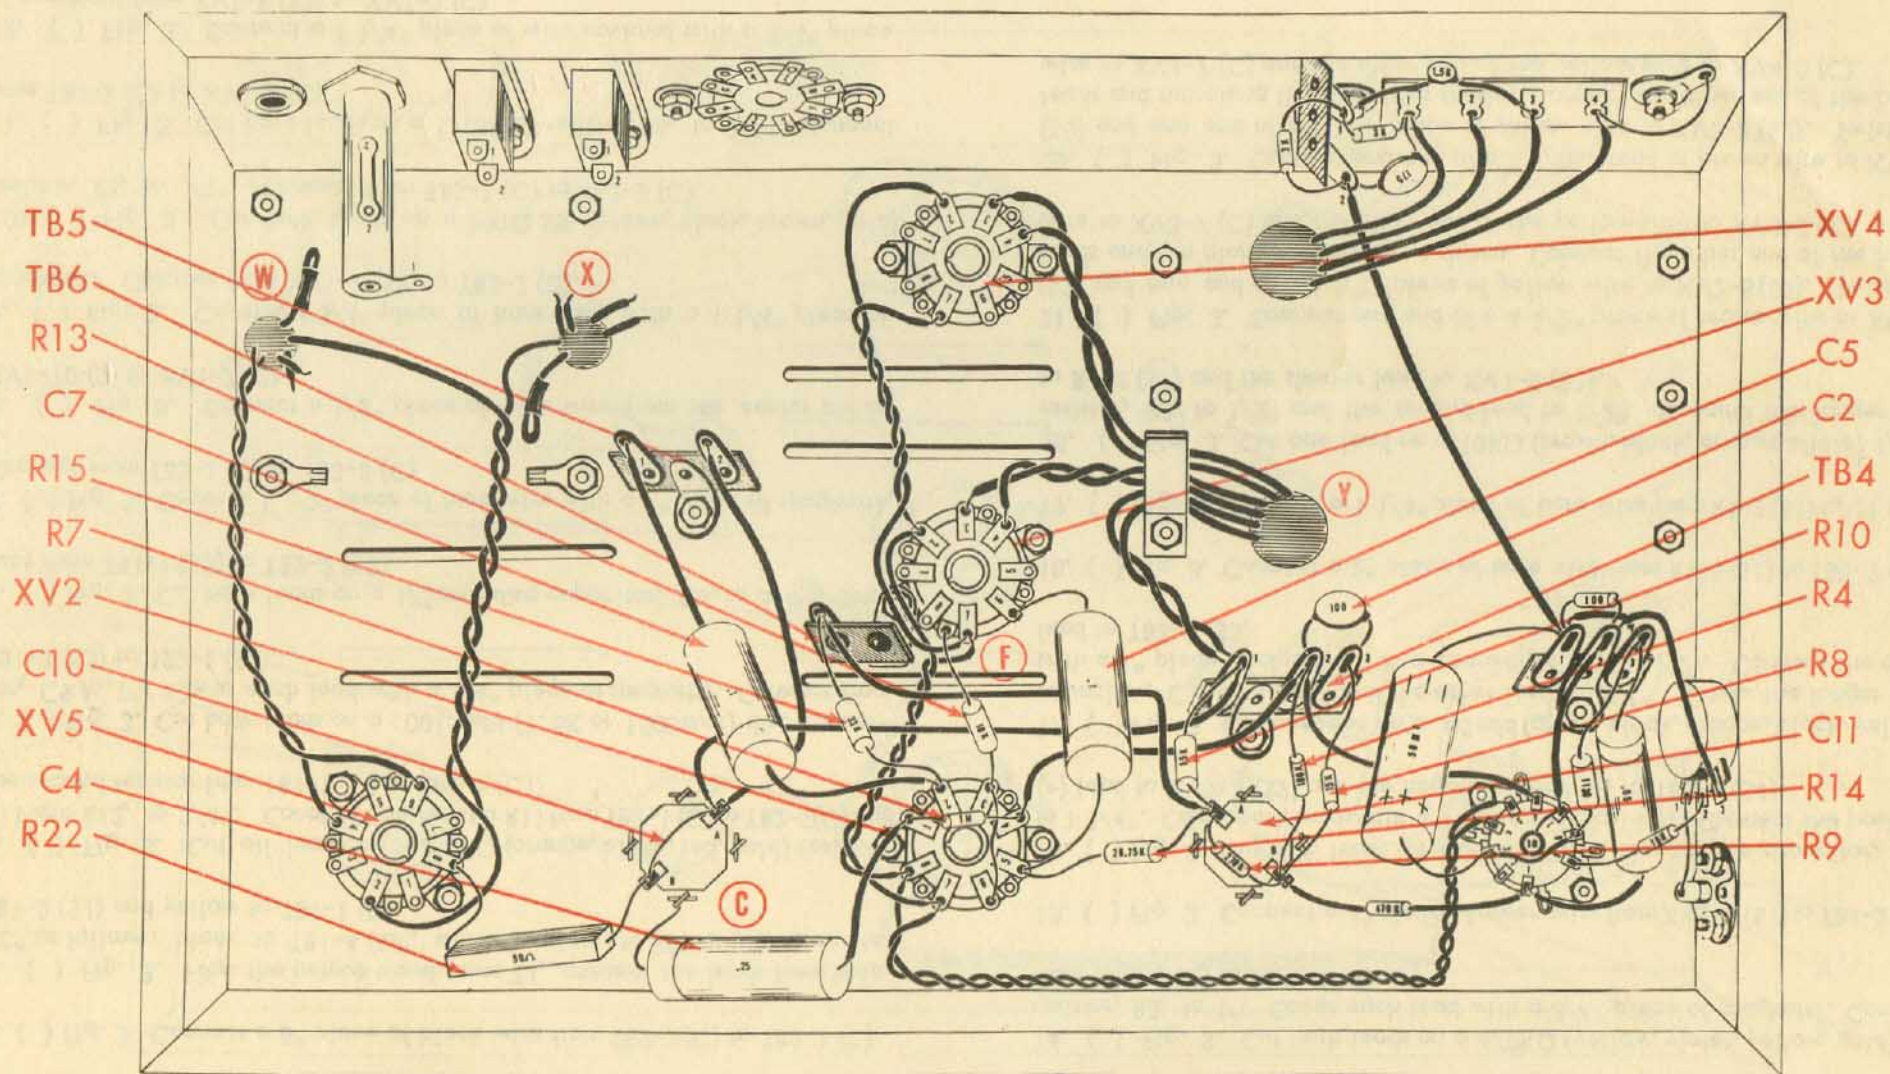

Fig. 4
1. () Fig. 4. From hole "Y" of output transformer T1, twist the red and red-yellow leads together. Connect both leads to TB4-1 (C).
2. () Fig. 4. From hole "Y" of the output transformer T1, twist the brown and brown-yellow leads together. Connect the brown lead to XV3-3 (C) and the brown-yellow lead to XV3-4 (S1).
3. () Fig. 4. From hole "Y" of the output transformer T1, twist the blue and blue-yellow leads together. Connect the blue lead to XV4-3 (S1) and the blue-yellow lead to XV4-4 (S1).
4. () Fig. 4. Connect a 4 1/2" piece of green wire from TB4-2 (C) to XV2-4 (C).
5. () Fig. 4. Cut both leads on a 100mmf disc capacitor, C2, to 1/2". Connect from TB4-2 (C) to TB4-3 (C).
6. () Fig. 4. Cut both leads on a 100K Ω (brown, black, yellow, gold) resistor, R4, to 3/4". Connect from C11-B (C) to TB4-2 (S4).
7. () Fig. 4. Cut both leads on a 15K Ω (brown, green, orange, silver) 1/2W resistor, R8, to 3/4". Connect from C11-B (C) to TB4-3 (S2).
8. () Fig. 4. Cut both leads on a 270K Ω (red, violet, yellow, silver) resistor, R9, to 1/2". Connect from C11-A (C) to C11-B (S4).
9. () Fig. 4. Connect a 5" piece of red wire from C10-A (C) to TB5-2 (C).
10. () Fig. 4. Connect a 6" piece of red wire from C10-A (C) to TB4-1 (C).
11. () Fig. 4. Connect a 5" piece of red wire from C11-A (C) to TB6 (C).
12. () Fig. 4. Cut both leads on a 15K Ω (brown, green, orange, silver) 1 watt resistor, R10, to 1/2". Connect from TB4-1 (S4) to C11-A (C).
13. () Fig. 4. Cut both leads on a 28.75K Ω (red, grey, grey, gold) resistor, R14, to 3/4". Connect from XV2-5 (C) to C11-A (S4).
14. () Fig. 4. Connect a 1 1/4" piece of bare wire covered with a 1" piece of spaghetti from XV2-6 (S1) to XV2-3 (C).
15. () Fig. 4. Cut both leads on a 1M Ω (brown, black, green, silver) resistor, R7, to 1/2". Connect from XV2-1 (C) to XV2-4 (S2).
16. () Fig. 4. Cut both leads on an 18K Ω (brown, grey, orange, gold) resistor, R13, to 3/4". Connect from XV2-3 (S2) to ground lug "F" (C) on XV3.
17. () Fig. 4. Cut both leads on a 33K Ω (orange, orange, orange, gold) resistor, R15, to 3/4". Connect from TB6 (S2) to XV2-2 (C).
18. () Fig. 4. Cut both leads on a .25mfd (red, green, yellow, white, yellow) capacitor, C4, to 1". Cover one lead with a 3/4" piece of spaghetti and connect to XV2-1 (S2). Connect the other lead to ground lug "C" (S1) at C10.
19. () Fig. 4. Cut both leads on a .1 mfd (brown, black, yellow, white, blue) capacitor, C5, to 1". Connect from XV2-5 (S2) to XV3-6 (C).
20. () Fig. 4. Cut both leads on a .1 mfd (brown, black, yellow, white, blue) capacitor, C7, to 1 1/2". Cover each lead with a 1 1/4" piece of spaghetti. Connect from XV2-2 (S2) to TB5-1 (C).
21. () Fig. 4. Twist the two red leads from hole "W" of power transformer T2, and run along the chassis as shown. Connect one red lead to XV5-4 (S1) and the other red lead to XV5-6 (S1).
22. () Fig. 4. Twist the two yellow leads, one from hole "W" and the other from hole "X", of the power transformer T2, and run along the chassis as shown. Connect one yellow lead to XV5-2 (S1) and the other yellow lead to XV5-8 (C).
23. () Fig. 4. Cut both leads on a 50 Ω , 10 watt, wire wound resistor, R22, to 3/4". Cover each lead with a 1/2" piece of spaghetti. Connect from XV5-8 (S2) to C10-B (C).
24. () Fig. 4. Connect a 1 1/4" piece of bare wire from C10-B (S2) to C10-A (S3).